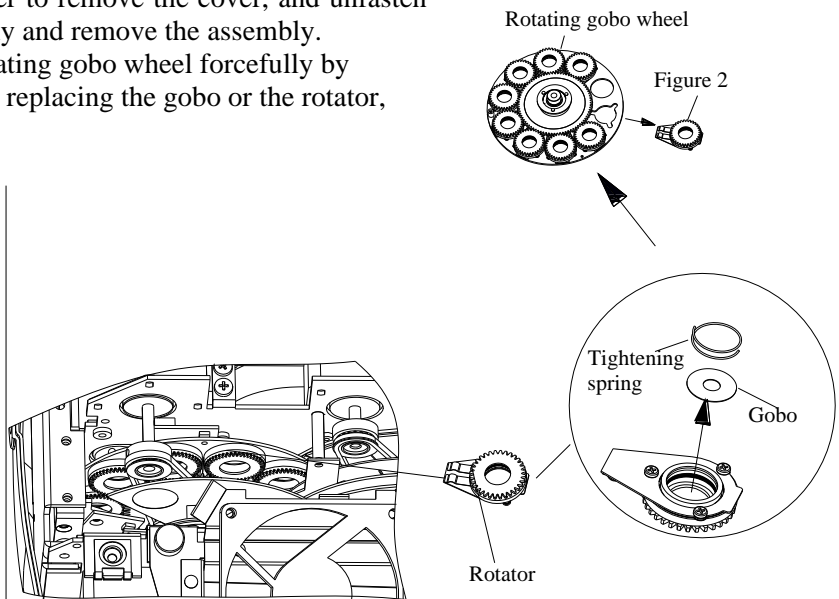

Figure 2
2. Pull out the rotator from the rotating gobo wheel forcefully by fingers as shown in figure2. After replacing the gobo or the rotator, put the rotator back to the holder.